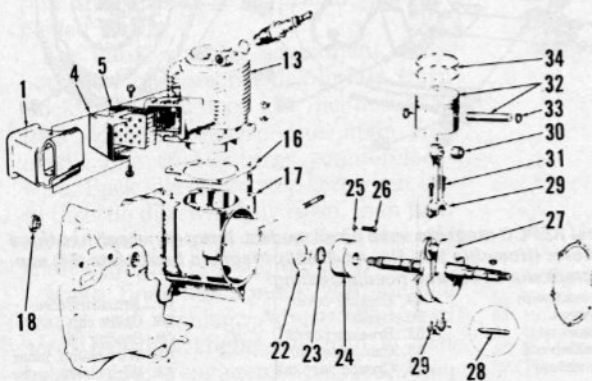

Fig. HL219—Exploded view of typical engine.
CRANKSHAFT, BEARINGS AND SEALS. The drive end of the crankshaft is supported in a ball bearing (24—Fig. HL219) which is retained in crankcase by two screws (26) and special washers (25) which engage groove in ball bearing outer race. Crankshaft is held in position by a snap ring (23) at outer side of bearing. The flywheel end crankshaft journal rotates in a caged needle roller bearing supported in magneto back plate (64—Fig. HL217).